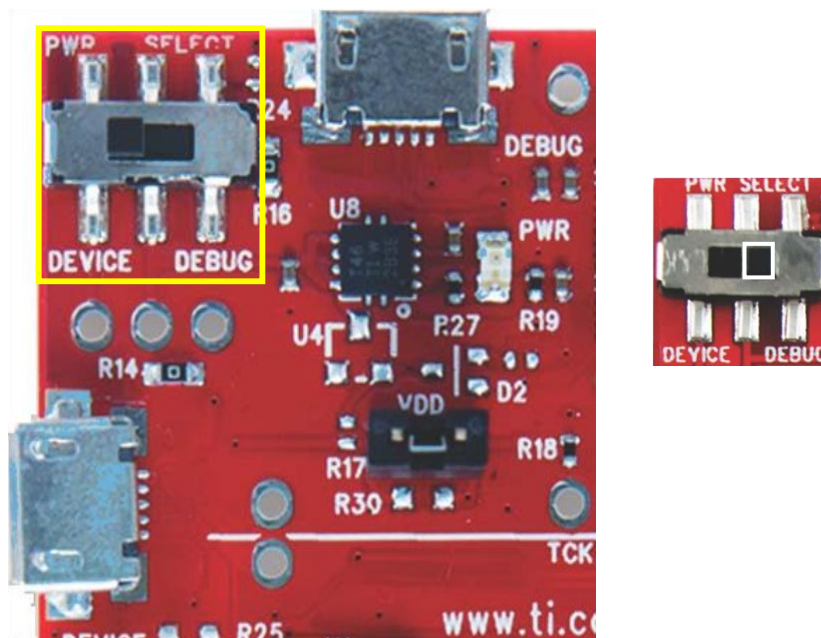

Figure 5 Power Select Switch Position
1. Check if the Power Select Switch in the upper left corner of the board is in the DEBUG position as shown in Figure 5.